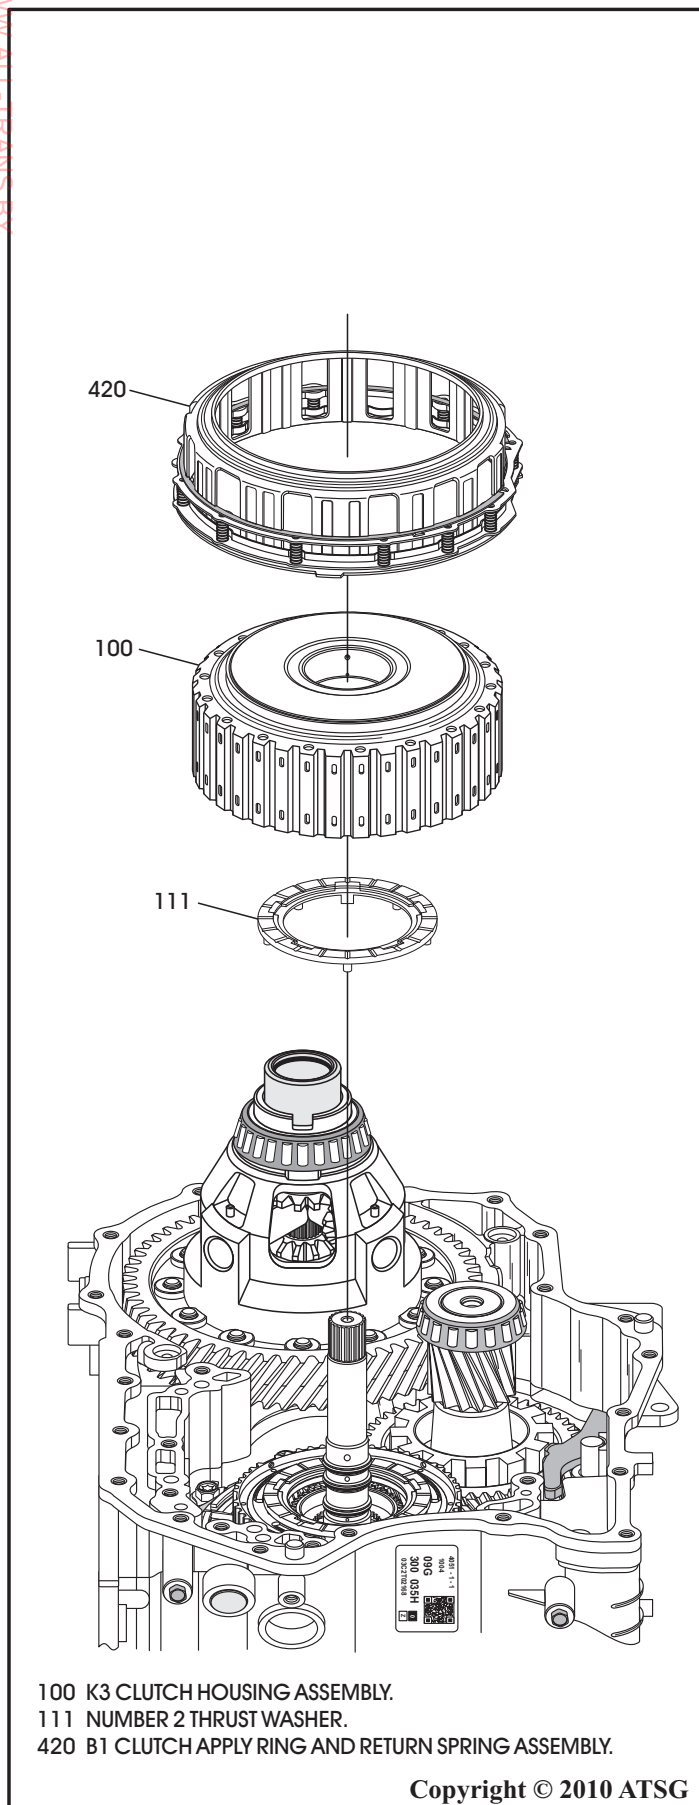

Figure 71
44. Remove the B1 clutch apply ring and return spring assembly, as shown in Figure 71.
45. Remove the K3 clutch housing assembly, as shown in Figure 71, and set aside for the component rebuild section.